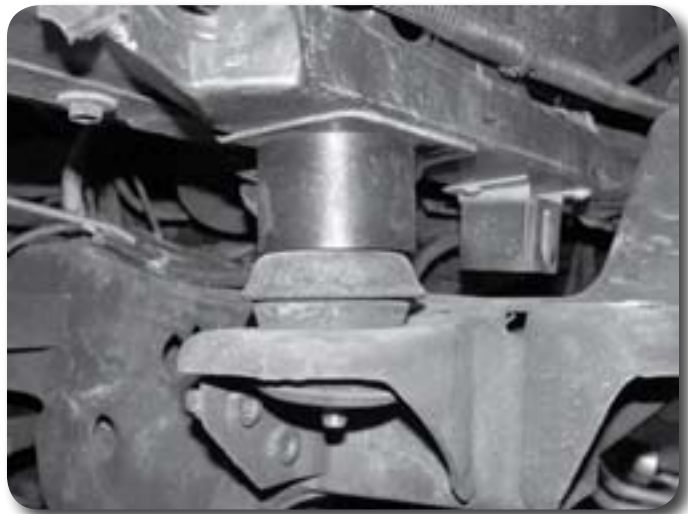

Figure 25
33. Install 12mm x 140mm bolts and 7/16" USS washer in conjunction with the factory washer and bushings in the main cab mounts. Install a 12mm x 140mm bolt with large 1/2" washer in the front core support mount from the top down and fasten with the factory bushing, washer, and nut **Figure 25**. Leave all hardware loose at this time.